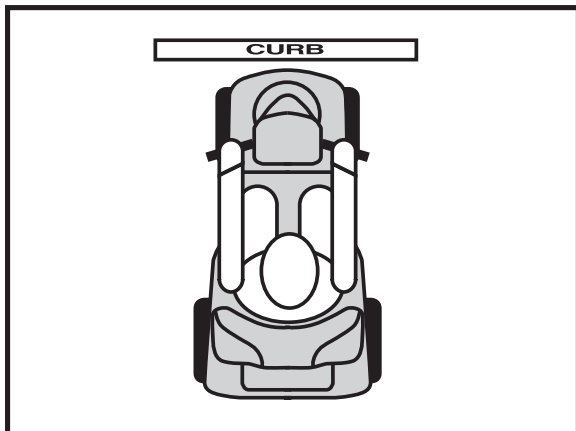

Figure 3. Correct Curb Approach
**WARNING!** Be sure your PMV is traveling perpendicular to any curb you may be required to ascend or descend. See figures 3 and 3A.